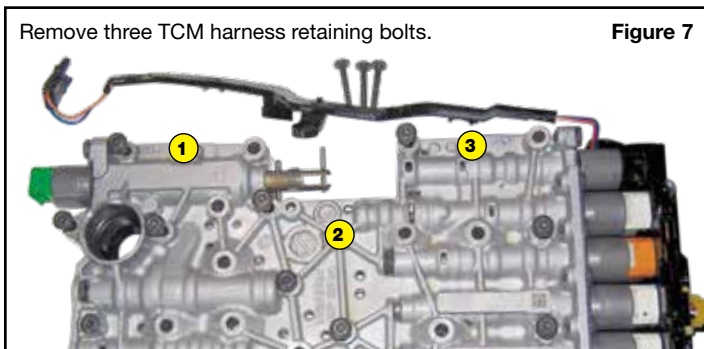

Figure 7
- Disconnect three TCM harness retaining bolts (Figure 7).